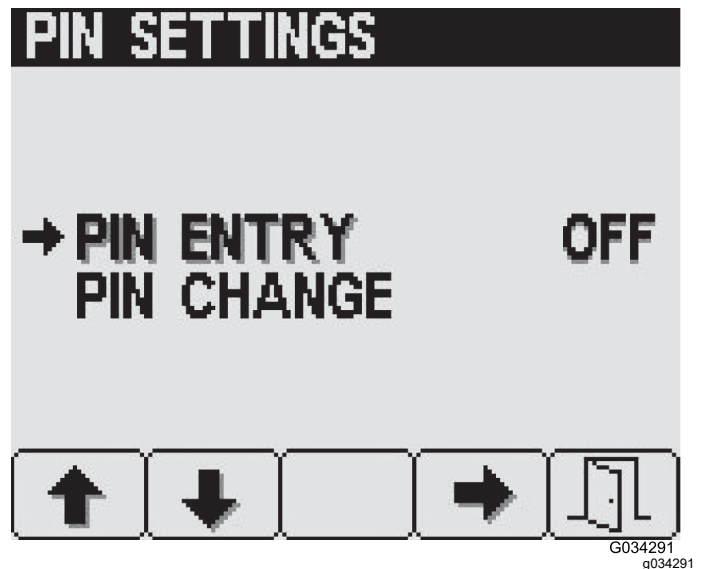

Figure 25
1. Press buttons 1 or 2 to select the PIN ENTRY option (Figure 25).
2. Press button 4 to turn the PIN requirement ON or OFF (Figure 25).